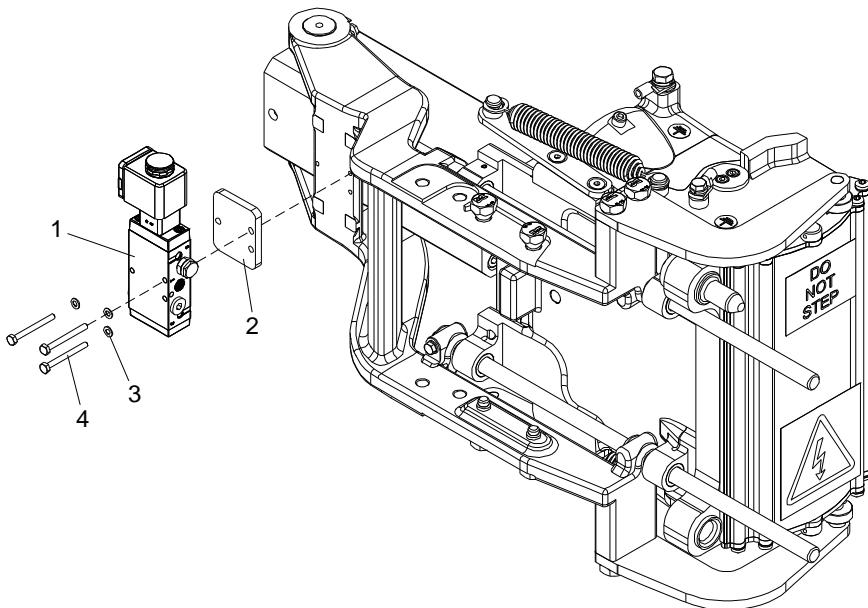

Figure 7-31: Replacement of Uncoupling Valve (V11)
1. Take notes how the pneumatic connections are connected to the uncoupling valve (1) and loosen the connections. See Figure 7-31.
2. Remove the uncoupling valve (1) and distance plate (2) from the left electrical coupler actuator by removing the screws (4) and washers (3).
2. Fit the distance plate (2) and uncoupling valve (1) to the left electrical coupler actuator and mount the washers (3) and screws (4). See Figure 7-31.
3. Connect pneumatic connections to the uncoupling valve (1) according to previous notes.